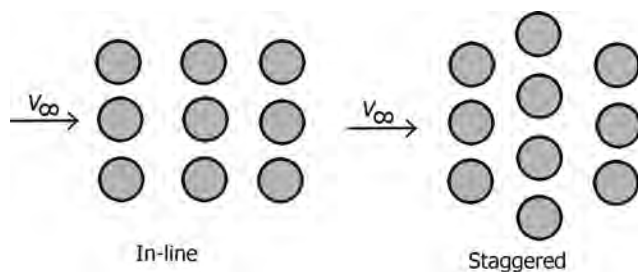

FIGURE 9.4 In-line and staggered tube arrangements.
- In-line and staggered arrangements are illustrated in Figure 9.4.